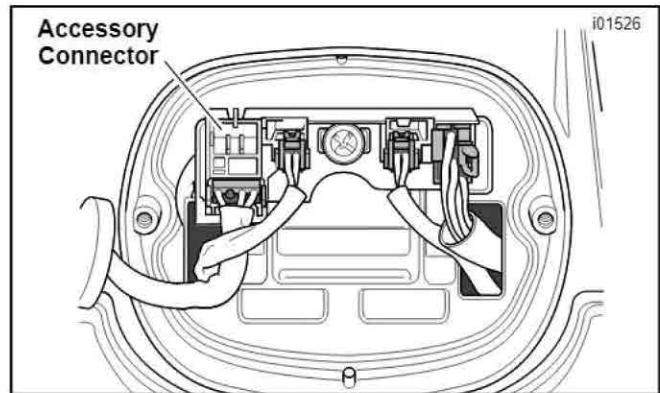

Figure 8. Connecting the License Plate Frame
10. See Figure 8. Route the license-plate frame harness through the left-side opening in the tail lamp base, and plug the socket housing into the Accessory connector at the upper left of the tail lamp circuit board. Use tie straps (12) from the kit as needed to secure the wiring.